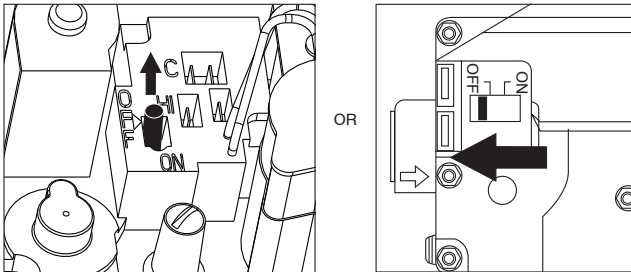

Fig. 7 - Control Switch to OFF
5. Turn the control switch on the gas control to the OFF position and wait 5 minutes. See Fig. 7. Then smell for gas, including near the floor. If you smell gas, STOP! Follow “B” on furnace label. If you don’t smell gas, go to next step.
5. Turn the switch on the gas control to the OFF position. (See Fig. 7.)